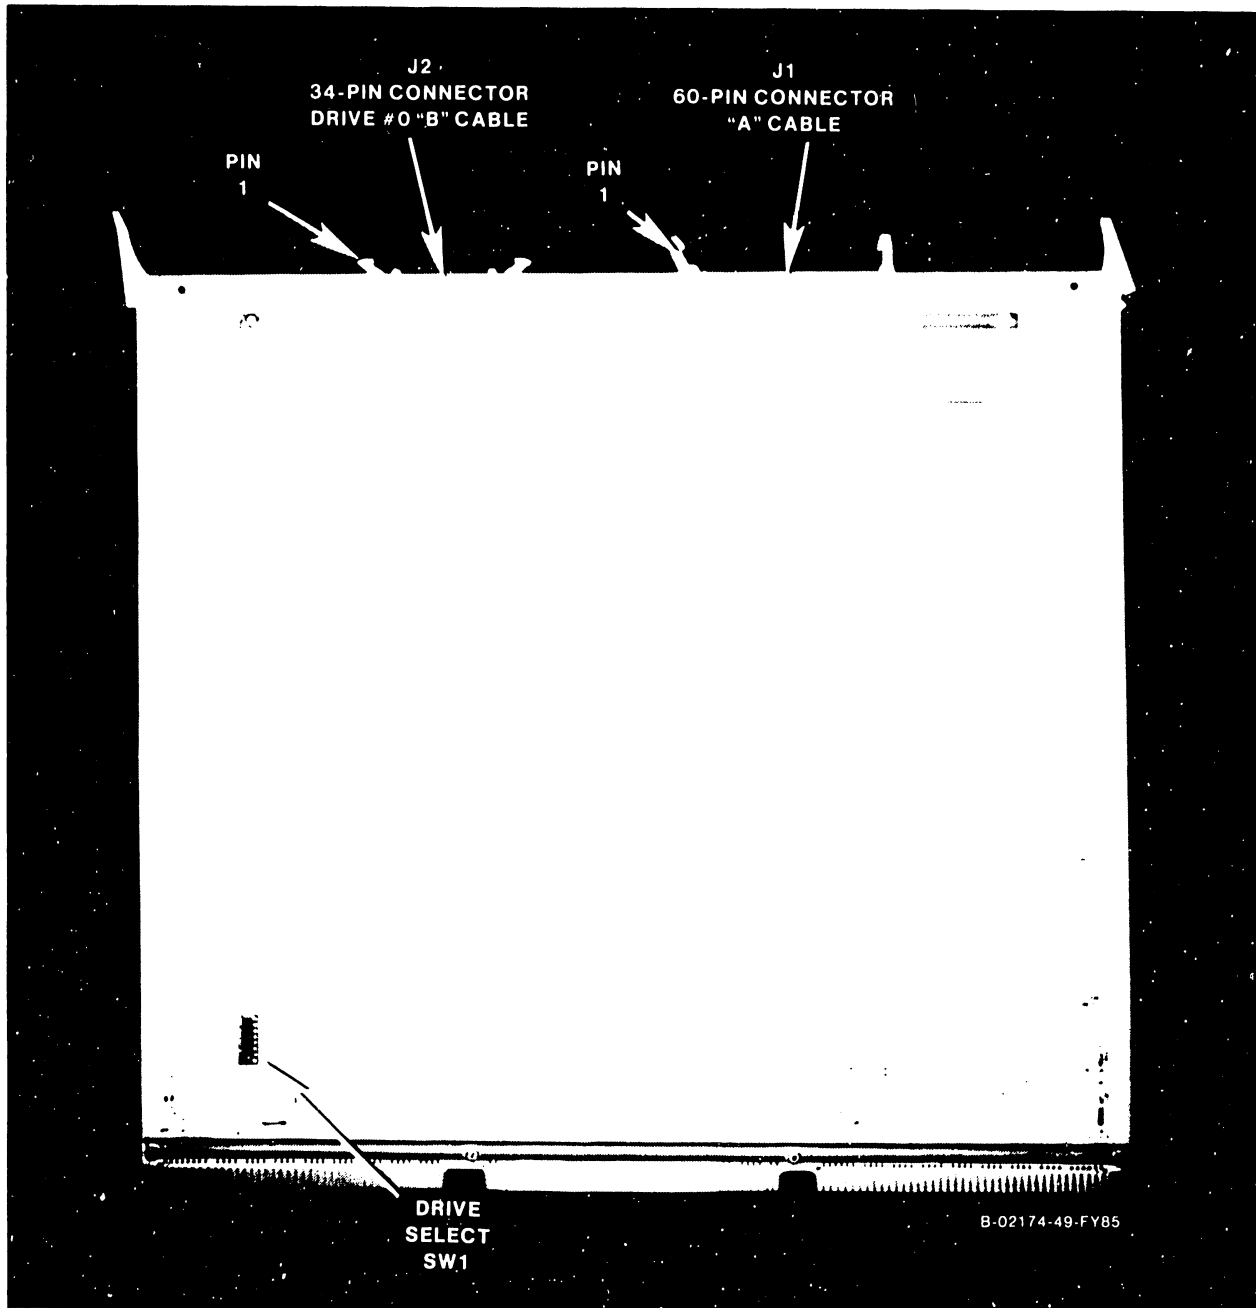
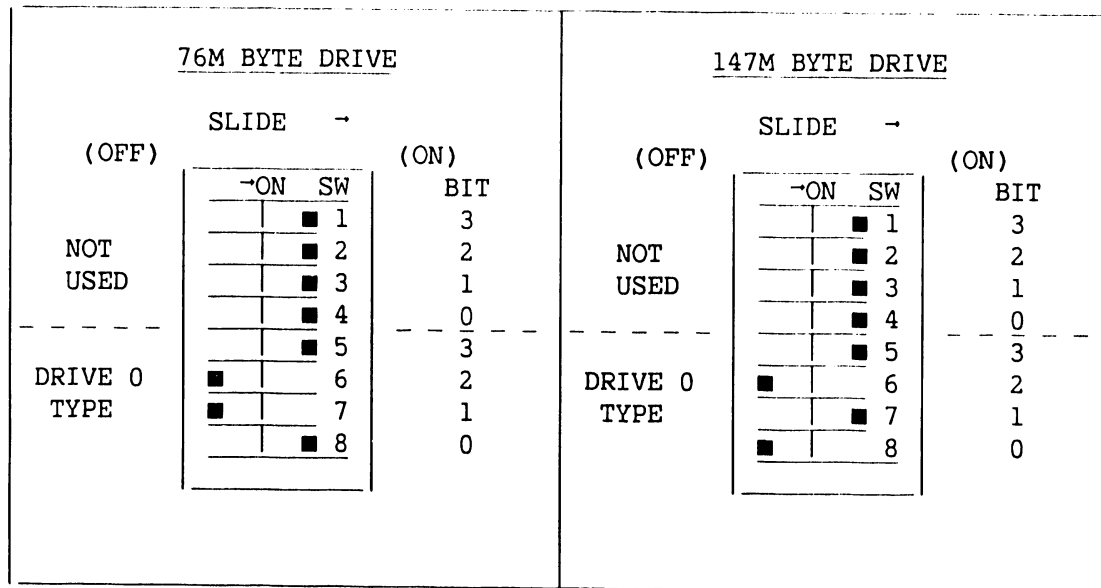
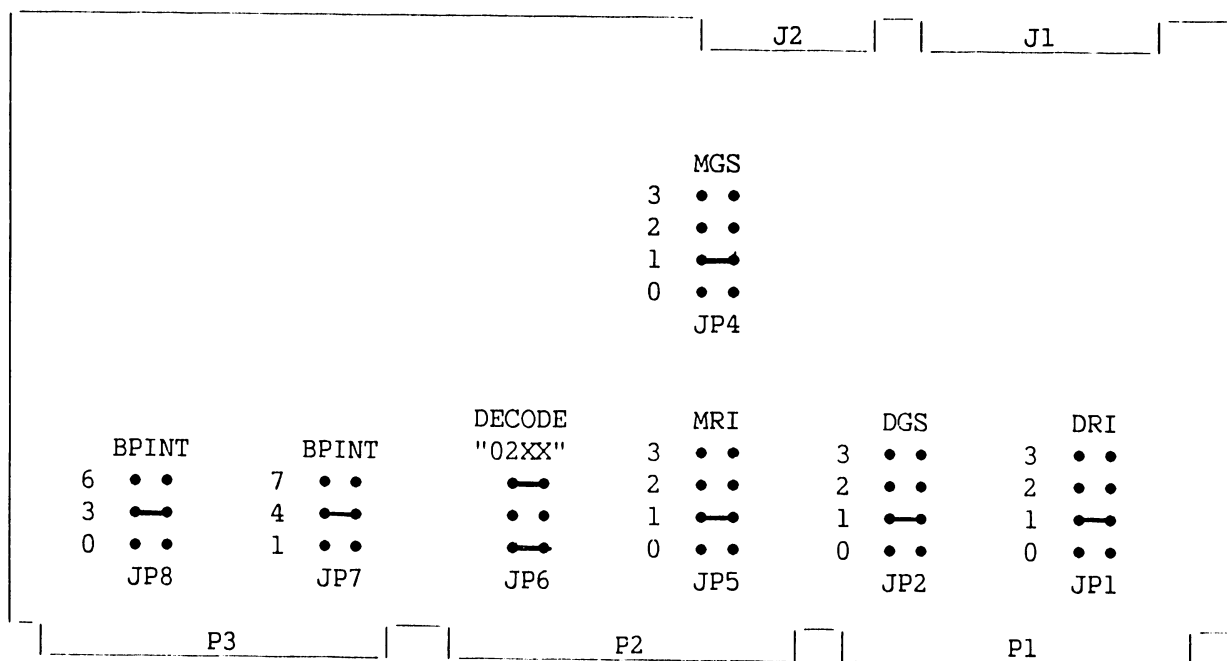

Figure 5-16. One-Port Internal Fixed Disk Device Adapter
Figure 5-17. Device Type Switch Setting for 76M or 147M Byte Drive
Figure 5-18. Internal Disk Drive DA Connector and Jumper Locations
2. Remove the connectors from the top of the device adapter (figure 5-16) located in Motherboard slot number 5 (I/O DA2). Note the position of all connectors for later reassembly.
4. Check the internal disk drive device type switch (SW1, figure 5-16) for the correct settings as shown in figure 5-17. Note that only the lower four bits are used (SW1-5 thru SW1-8). Check the jumper positions on the device adapter using figure 5-18 and reinstall or replace the DA in Motherboard slot number 5 (I/O DA2) as described in 5.5.2.1.